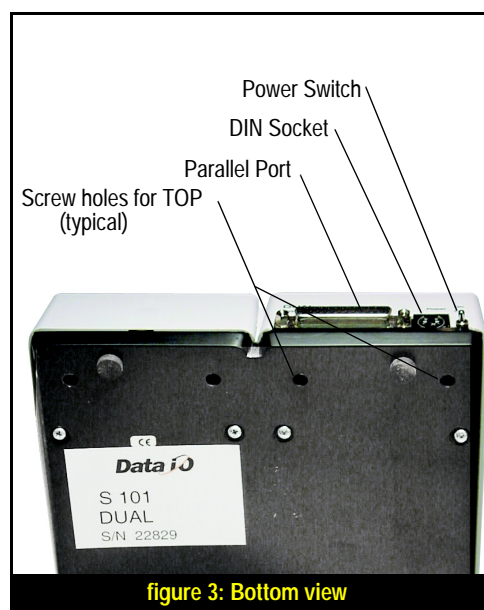

figure 3: Bottom view
4. Turn the unit upside-down and screw the two recessed screws into each TOP. See figure 3.